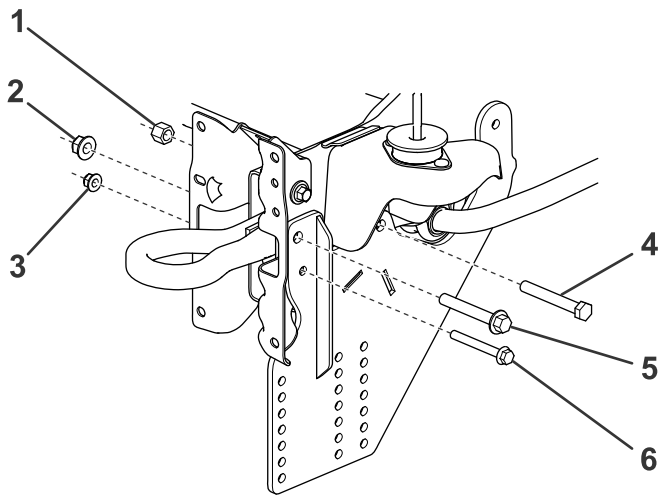

Figure 2
3. Loosely secure the front of the sideplates to the vehicle frame as shown in Figure 2.